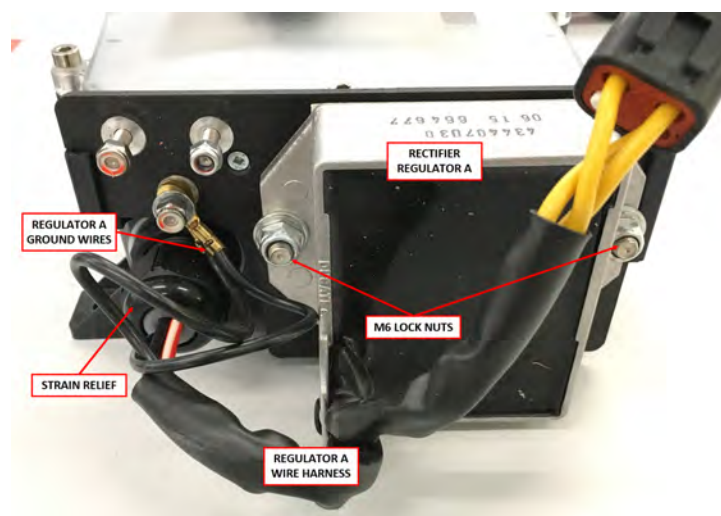

FIGURE 16-61
- For Regulator A, Remove one M4 lock nut (16) and washer (17) to remove two black ground wires (7) on one ground stud. See Figure 16-61.